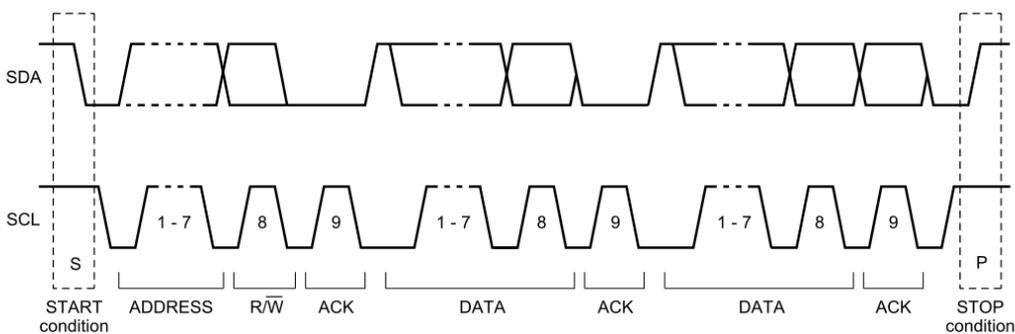

Figure 45. An Example of I²C Data Transfer
The RT8848C features an I²C interface to allow users to adjust various operating parameters. The supported operating parameters that can be adjusted through I²C communication are summarized in the register tables below. The data transfers follow the format shown in Figure 45. After the START condition (S), a slave address is sent. A data transfer is always terminated by a STOP condition (P) generated by the master. However, if a master still tries to communicate on the bus, it can generate a repeated START condition (Sr) and address another slave without first generating a STOP condition. Various combinations of read/write formats are then possible within such a transfer.